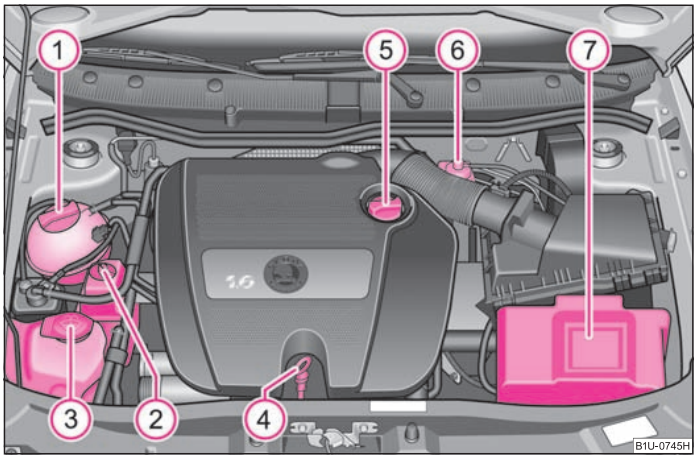

Fig. 151 1.6 ltr./75 kW petrol engine
**1.6 ltr./75 kW petrol engine ⇒ fig. 151**
① Coolant expansion bottle .....	165
② Reservoir for hydraulic liquid of power steering .....
③ Windshield washer fluid reservoir .....	172
④ Engine oil dipstick .....	163
⑤ Engine oil filler opening .....	163
⑥ Brake fluid reservoir .....	167
⑦ Battery (below a cover) .....	168
The reservoir for hydraulic oil of power steering is located in the front right of the engine compartment ⇒ page 161, fig. 151. ►